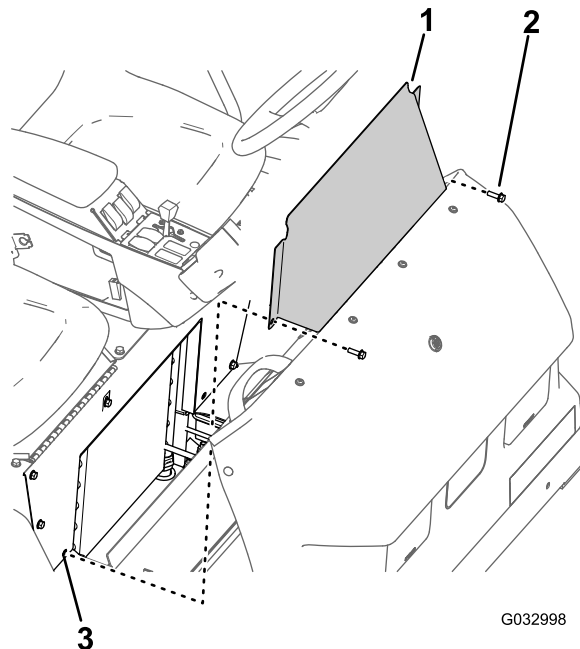

Figure 66
1. Remove the 2 flanged-head bolts that secure the seat-base-access panel to the seat base (Figure 66).
2. Remove the seat-base-access panel from the machine (Figure 66).
1. Align the holes in the seat-base-access panel with the holes in the seat base (Figure 66).
2. Assemble the seat-base-access panel to the seat base with the 2 flanged-head bolts (Figure 66) that you removed in step 1 of Removing the Seat-Base-Access Panel (page 51).